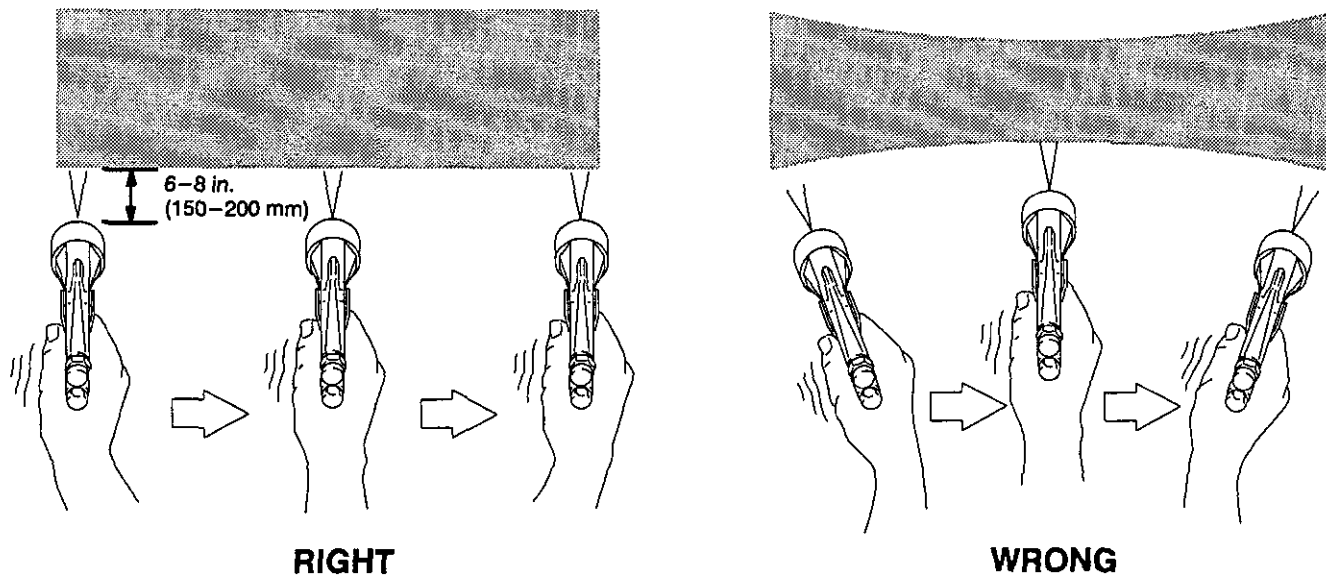

Fig. 14 0793
3. Keep the gun perpendicular to the surface and maintain a consistent distance of approximately 6 to 8 inches (150 to 200 mm) from the object being sprayed. See Fig. 14.